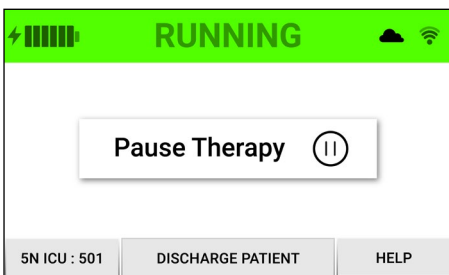

Figure 5. Running screen: general use systems
5. Therapy will begin with running screen visible. (Fig. 5)